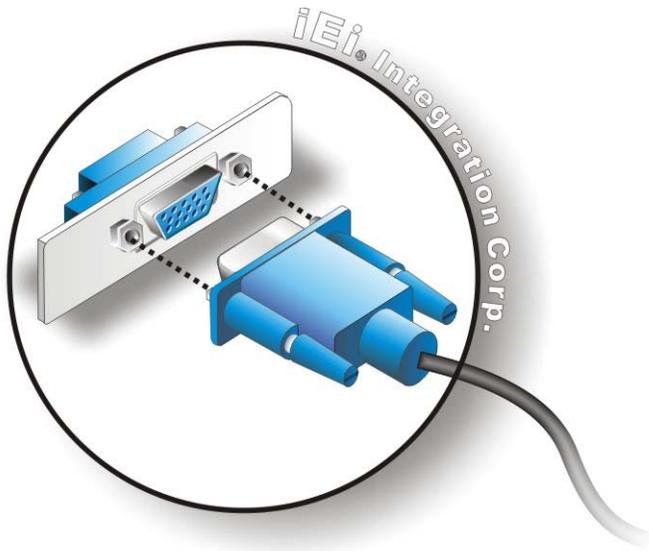

Figure 4-25: VGA Connector
- Step 3: Insert the VGA connector** Once the connectors are properly aligned with the insert the male connector from the VGA screen into the female connector on the NANO-QM871-i1. See **Figure 4-25**.